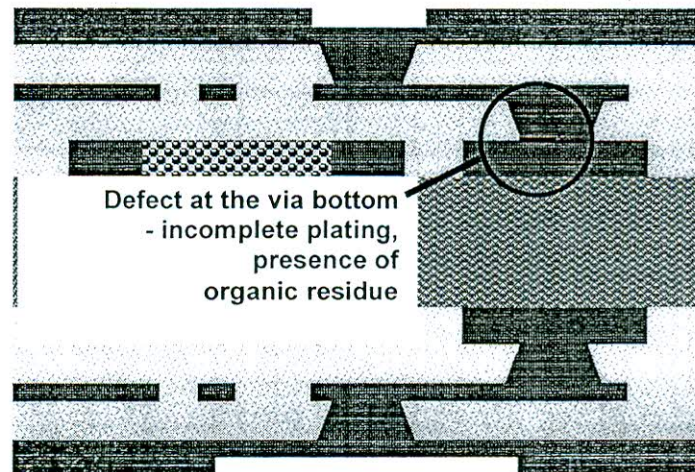

Figure 1
- [c] Every single substrate material shipped out by the substrate manufacturer is electrically tested for any opens or shorts within the substrate. However, during the open/ short test done after the substrate material is fully assembled (with die, underfill etc), a high resistance readout was detected. Upon further investigation and failure analysis, the following defect was observed in one of the via within the substrate (refer to Figure 1). Explain what are the potential process abnormality at supplier that could lead to the incomplete plating at the via bottom. Explain the implication of this defect to the performance of the substrate.